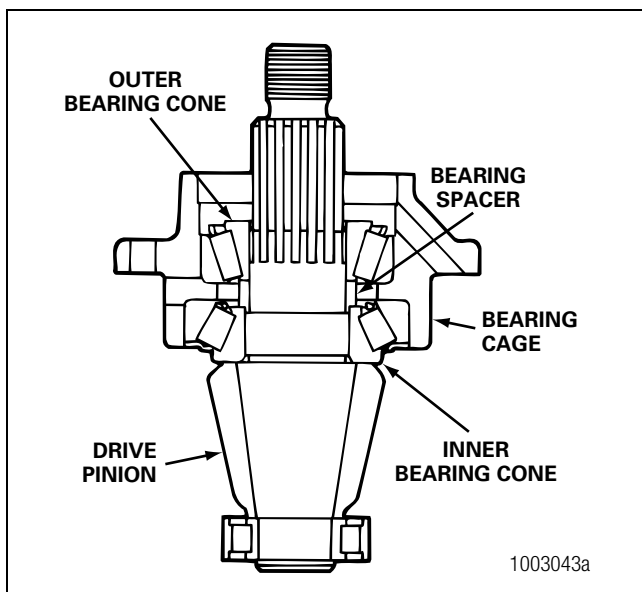

Figure 5.12
- Install the bearing spacer or spacers onto the pinion shaft against the inner bearing cone. Figure 5.12. The spacer or spacers control the preload adjustment of the drive pinion bearings.
- Install the outer bearing cone onto the pinion shaft against the spacer. Do not install the pinion seal into the bearing cage. Figure 5.12.